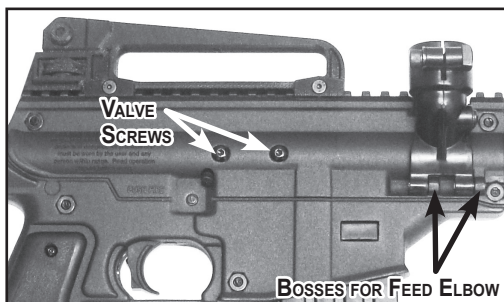

Figure 14: Valve Screws and Feed Elbow
1. To remove the **Power Tube** and **Valve** (5), unscrew two **Screws** (8) from the right side of the receiver shown in Figure 14.
2. To remove the **Valve** from the **Power Tube**, use a wrench to slowly unscrew the **Gas Line** (6) fitting. Once the fitting is out, the **Valve** will slide out the back of the power tube.